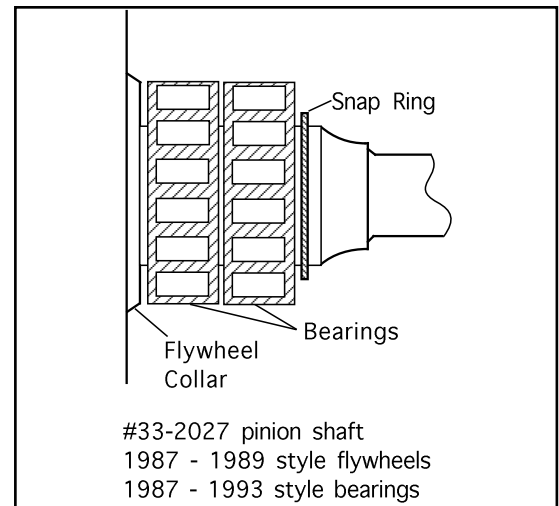

Figure 6
3. 1987 to 1989 big twin or S&S SL or BL style flywheels for 1981 and later, and S&S pinion shaft 33-2027 - No thrust washers are normally used. Typical arrangement - bearings against flywheel, and snap ring directly against bearing. See Figure 6.